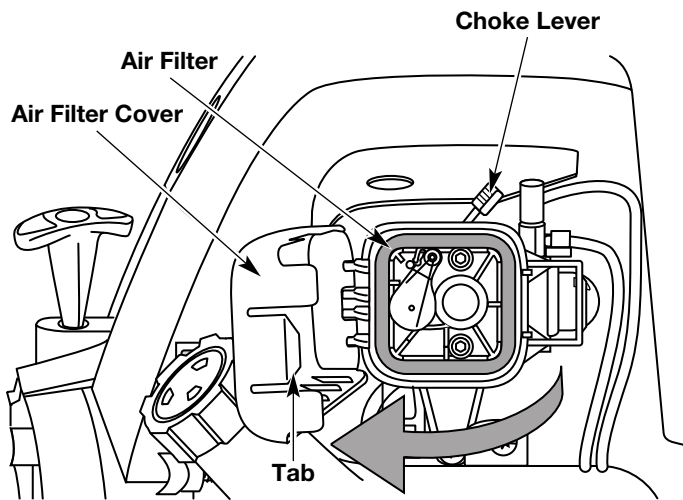

Fig. 43
1. Open the air filter cover. Push the tab on the right side of the cover in, pull the air filter cover out and to the left (Fig. 43).
2. Remove the air filter (Fig. 43).